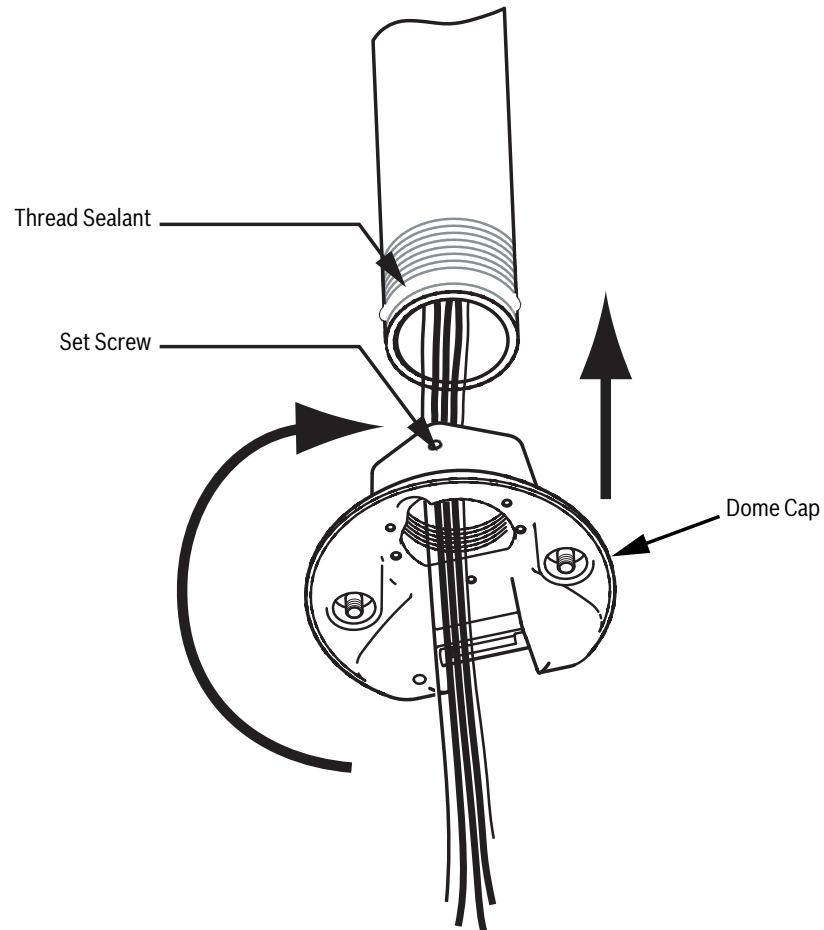

Fig. 2.10 Attach Dome Cap.
6. Thread the Pipe Cap onto the down pipe and tighten securely to prevent leaks. Then secure it with the set screw. See *Figure 2.10* on page 29.